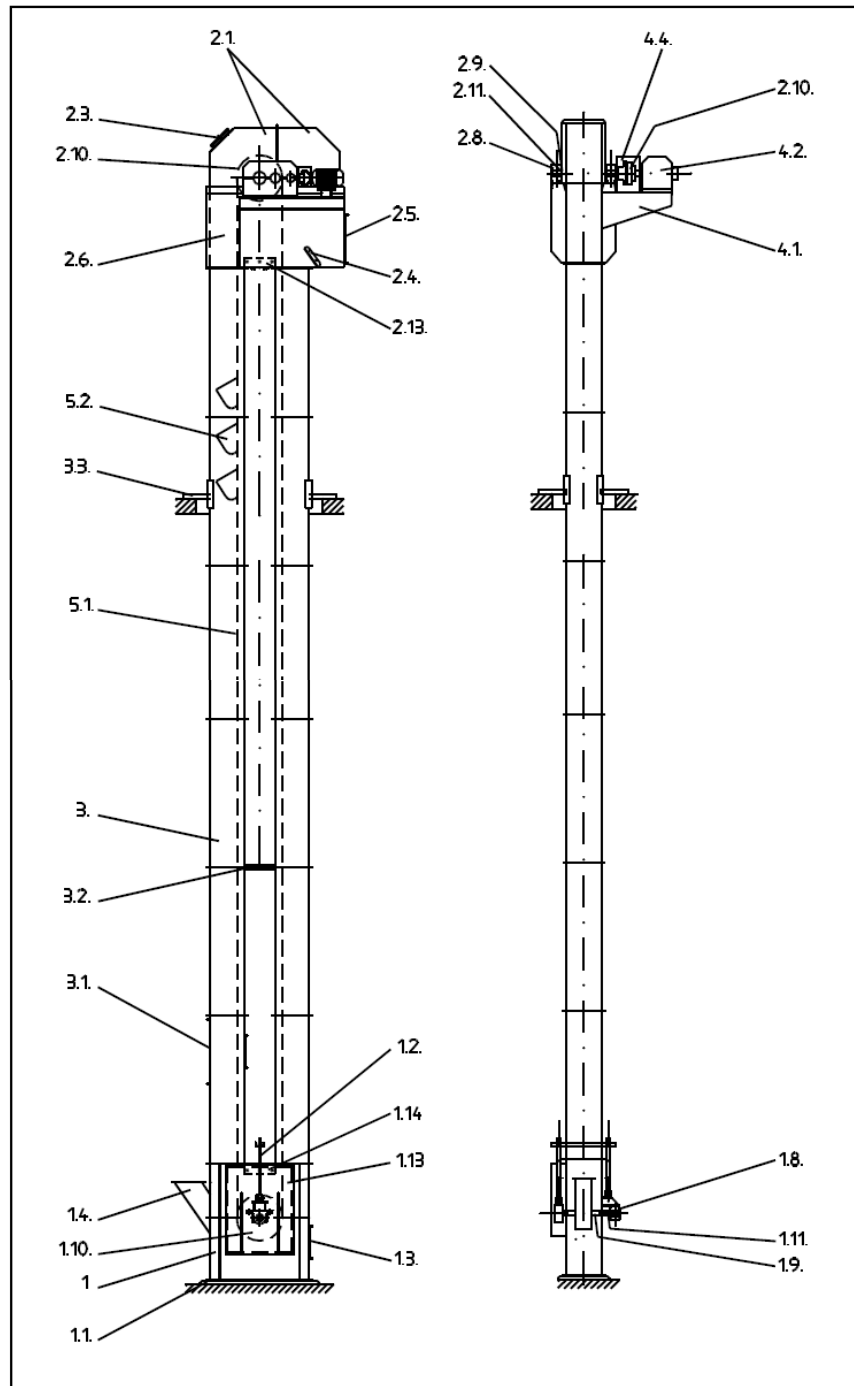
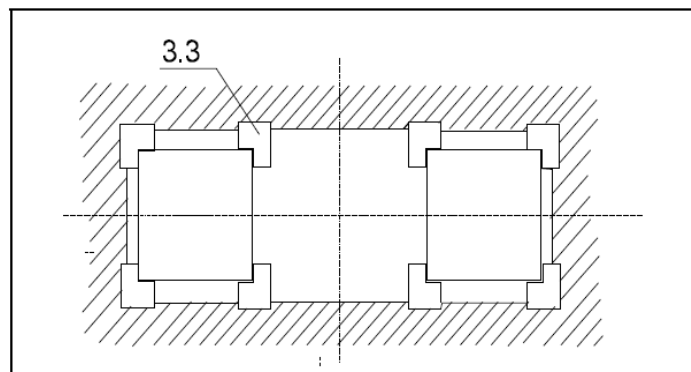

Fig. 1: Total Drawing
Fig. 2: Guide Plates on the Flue
- the feed boot of the bucket elevator (pos. 1, fig.1)
- the flue of the bucket elevator (pos. 3, fig.1)
- the elevator head (pos. 2, fig.1)
- the drive with the drive console (pos. 4, fig.1)
- the bucket line drive (pos. 5, fig.1)
Assembly begins with the feed boot (pos. 1, fig.1), which is set up horizontally in the desired position and temporarily secured against shifting to the side. The accompanying tools are used to align the feed boot (depending on the type of substructure).
After that, the flues (pos. 3, fig.1) are attached in the order indicated on our plan drawing. After inserting the accompanying Iso-Glass gasket between the flanges, screw them in parallel to one another.
After approx. every 6 m (2 flues), connect the two flue line drives with flue connection plates (pos. 3.2, fig.1) (does not apply to the box flues). Make sure that everything is in parallel from the start.
Then, mount the head (pos. 2, fig.1) and the drive console (pos. 4.1, fig.1). Arrange the drive components on the console to take their weight into account during subsequent alignment work.
Don't mount the 2-piece cover (pos. 2.1, fig.1) until after a test run of the bucket elevator. Only the shaft seals need be installed on the shaft between the chain wheel and pedestal bearing beforehand.
After assembly, align the cage of the bucket elevator axially and perpendicularly and then fix in place. Align the drive shaft at a right angle and centered with respect to the lower piece of the head (pos. 2.6, fig.1) and horizontally by means of the bearing clamp bolts and accompanying material. The drive and tension shafts must be positioned perpendicularly one above the other.
Before retracting the bucket line drive (pos. 5, fig.1), guide the bucket elevator into a suitable position using the accompanying guide plates (pos. 3.3, fig. 2) at intervals of approx. 10 - 15 m, as well as in the immediate vicinity of the elevator head to prevent swaying to the side. Fasten the guide plates (pos. 3.3, fig. 2) to an opening in the ceiling as provided by the circumstances on-site in such a way that the cage can be expanded vertically.
Weld the drive console (pos. 4.1, fig. 1) to the lower part of the head (pos. 2.6, fig. 1) after aligning.